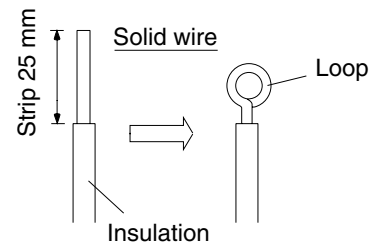

Fig. 3-36
- (1) Cut the wire end with a cutting pliers, then strip the insulation to expose the solid wire about 25 mm. (Fig. 3-36)
- (2) Using a screwdriver, remove the terminal screw(s) on the terminal plate.
- (3) Using the pliers, bend the solid wire to form a loop suitable for the terminal screw.
- (4) Shape the loop wire properly, place it on the terminal plate and fix it securely with the removed terminal screw using a screwdriver.